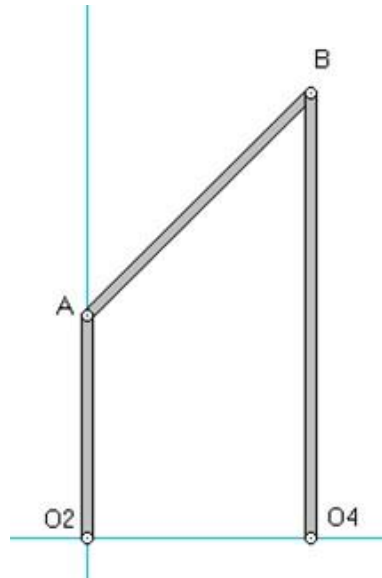

Fig. 2
4. The 4-Bar-Linkage as shown in Fig. 2, Link#2 rotates with constant angular velocity $\omega_2 = 1 \text{ rad/s (CCW)}$. If $O_2O_4=20\text{mm}$, $O_2A=20\text{mm}$, $O_4B=40\text{mm}$. Link#2(O_2A) and Link#4(O_4B) are perpendicular to the horizontal axis. Please use complex analysis method to solve for Link#3(AB) and Link#4(O_4B) angular velocities ω_3 and ω_4 , also the angular accelerations α_3 and α_4 . (15%)